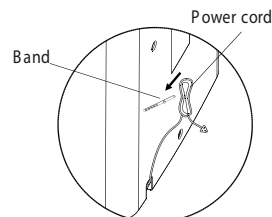

Fig. 12
- Wrap the cord and bundle it with the band(see Fig.12).